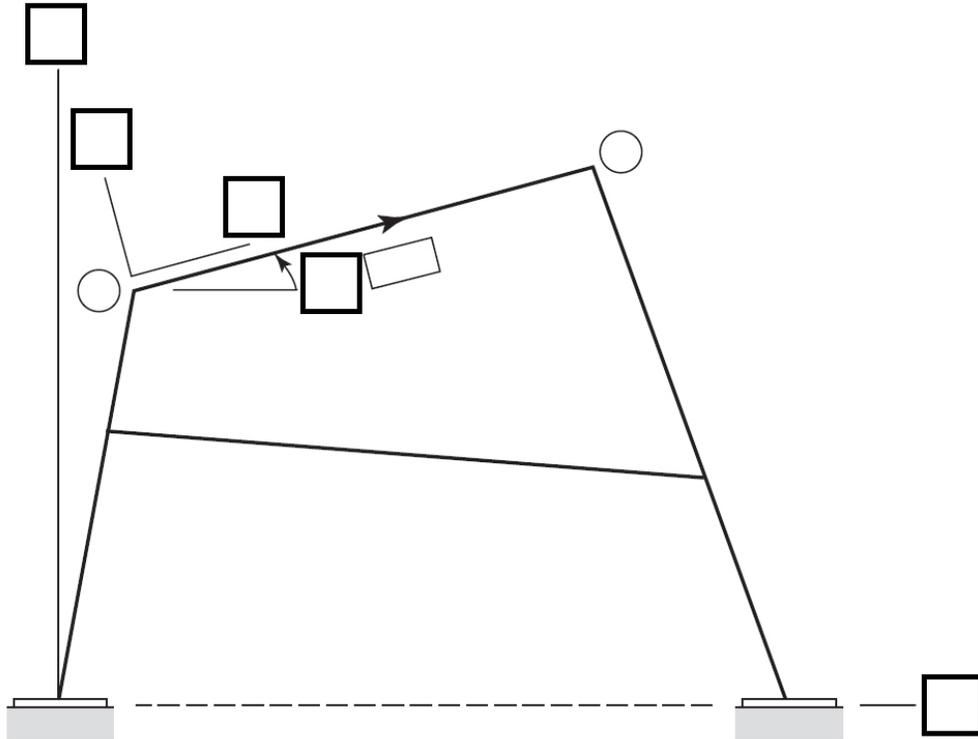

Figure 17. Location of member ____ for the example inclined frame.
- 4) Examine the example plane frame illustrated in Figure 17.